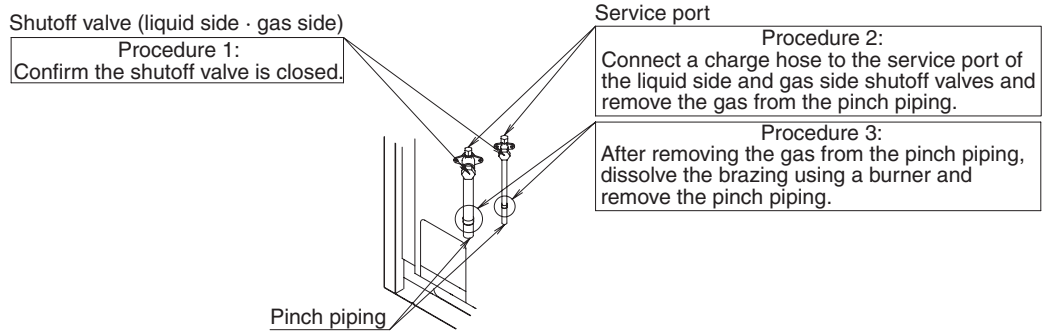

figure 13
- When connecting refrigerant piping to an outdoor unit, remove the pinch piping. (**Refer to figure 13**)
- Pinch piping should be removed using the procedure in the figure 13.